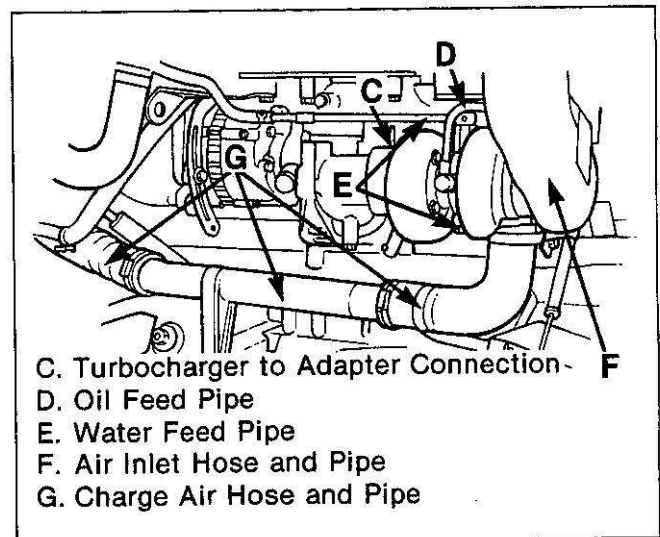

Figure 7b. Turbocharger Attachments Inspection (2)
- Turbocharger to adapter connection (C) for leakage (figure 7b).
- Oil feed pipe (D) for damage and connection for leakage (figure 7b).
- Water feed pipes (E) for kinks or damage and connection for leakage (figure 7b).
- Air inlet hose and pipe (F) for damage and connection for looseness or leakage (figure 7b).
- Charge air hoses and pipe between the turbocharger and the charge air cooler (G) for kinks or damage and connection for looseness or leakage (figure 7b).
1. Clean around the turbocharger oil feed line (item D, figure 7b).